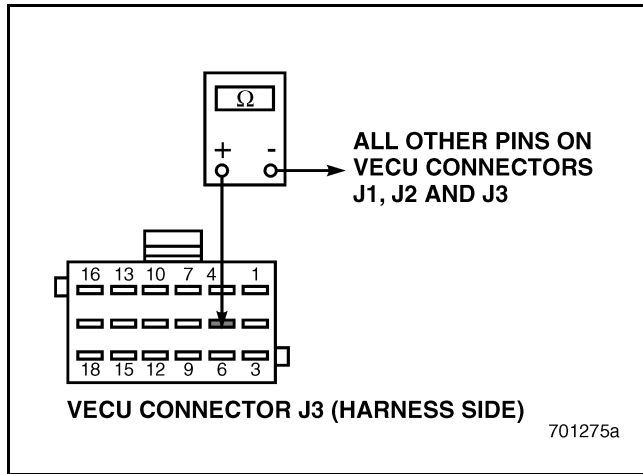

Figure 552
2. Disconnect the Throttle Position (TP) Sensor harness connector.
4. Check for continuity between VECU connector J3 pin 5 and all other pins on VECU connectors J1, J2 and J3 (see Figure 552).